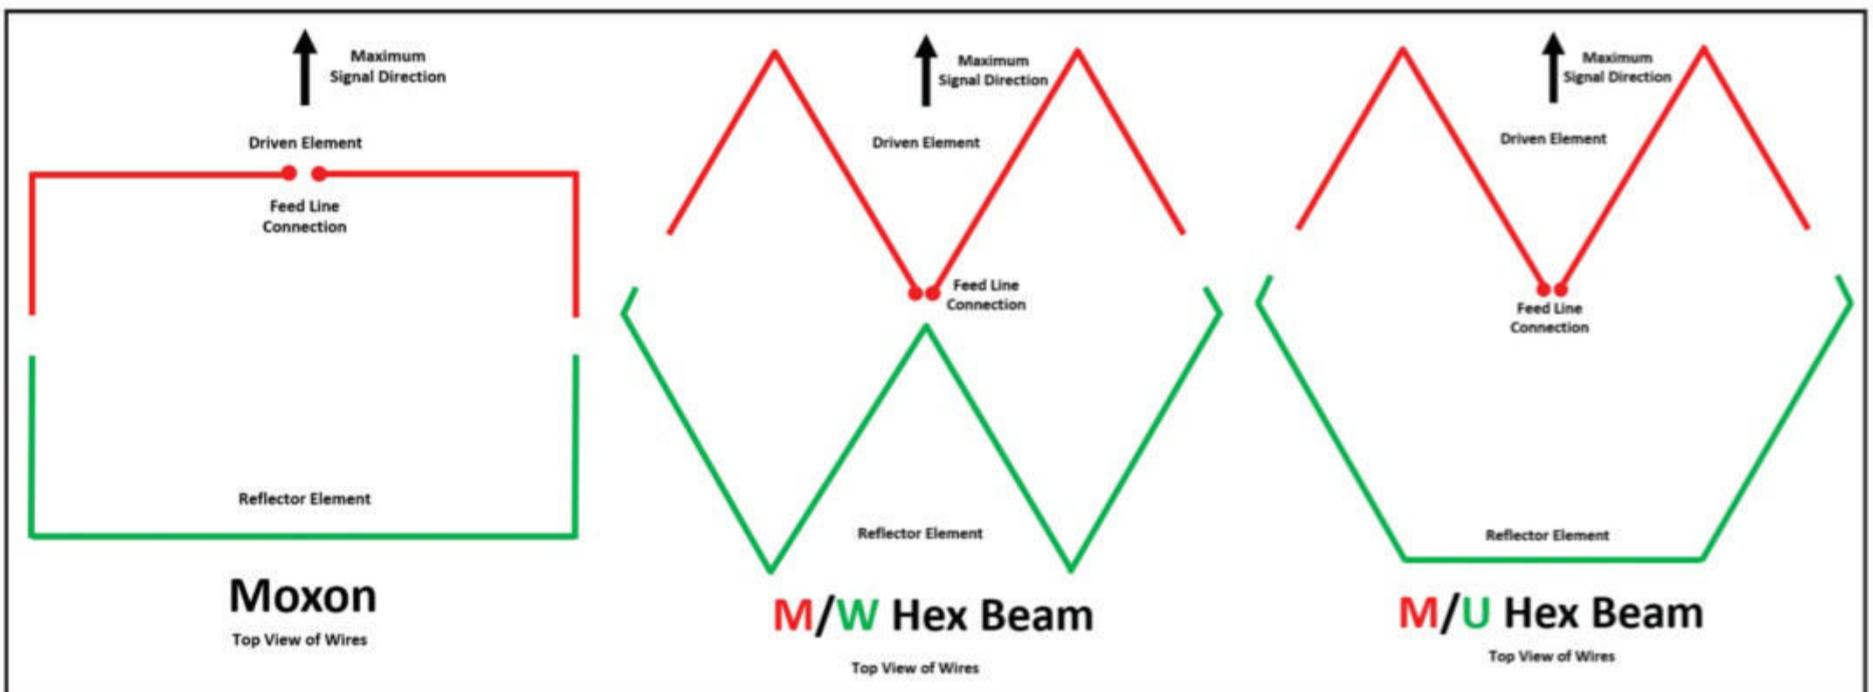
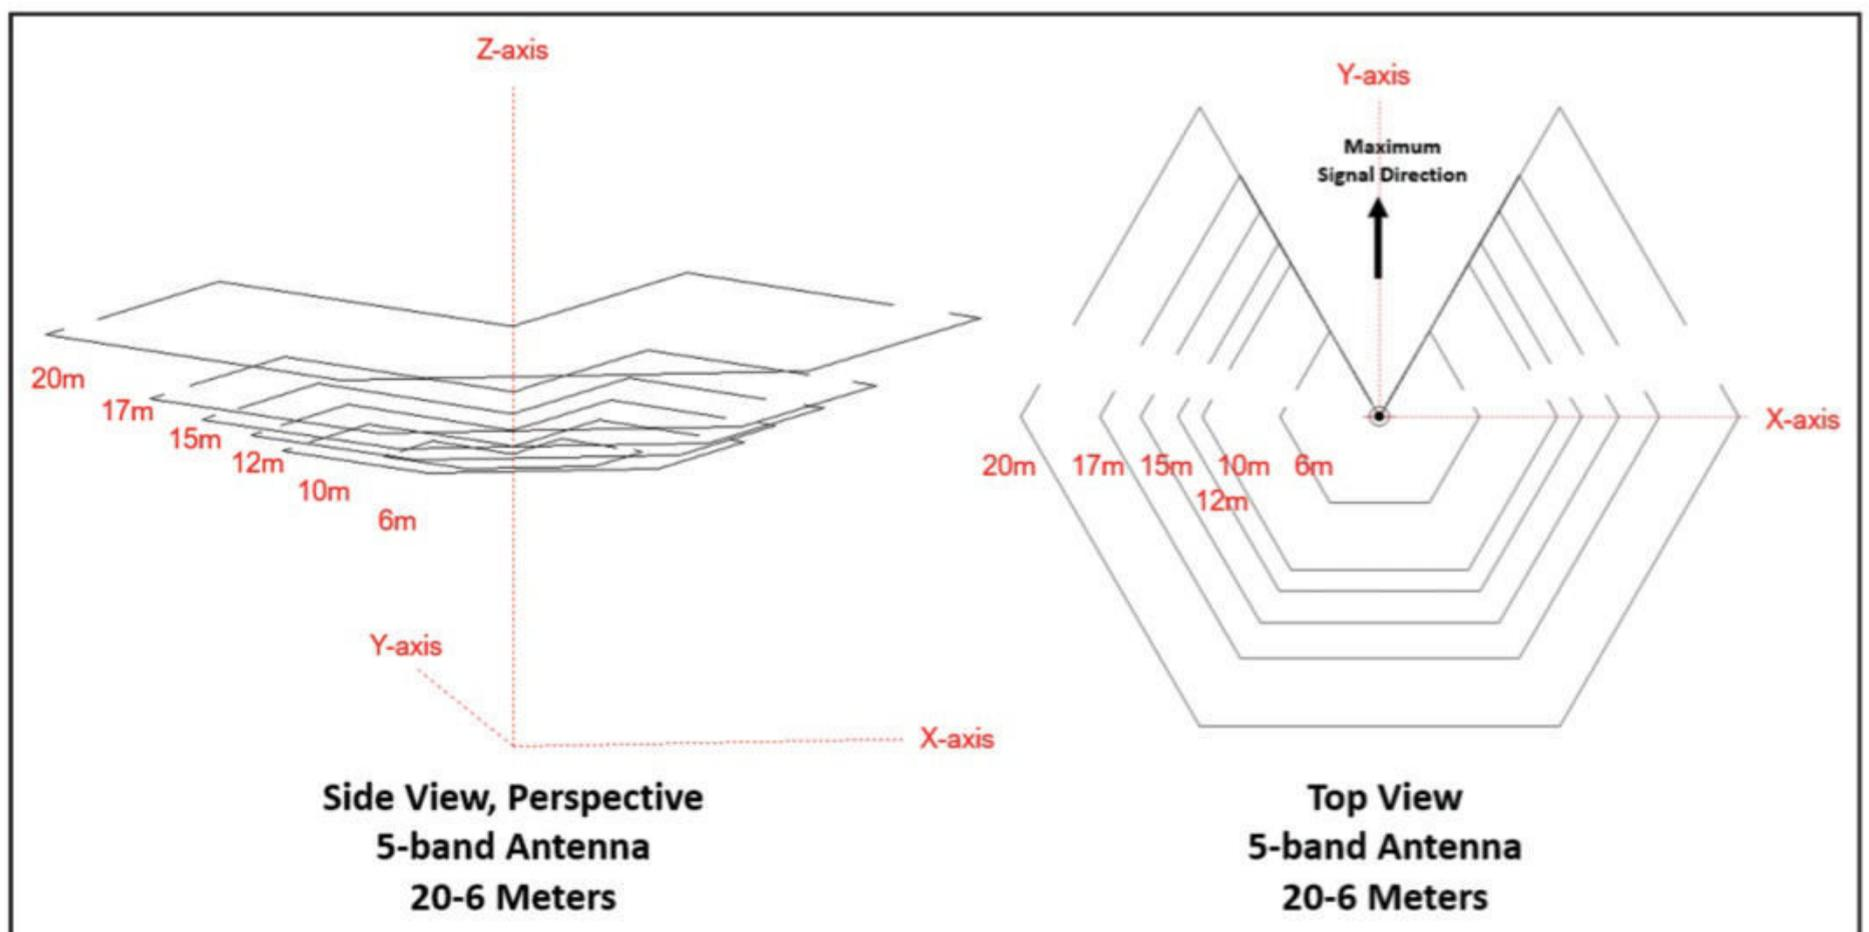

Figure 1. Moxon and hex beam wire configurations. (Illustrations by K5PA, except as noted)
Figure 2. Six-band hex beam showing nested wires (top view).
Amateurs have a long history of antenna experimentation, design, and development. Today, we stand on the shoulders of many giants in the field of antenna development. Many decades ago, Les Moxon, G6XN (SK), started bending antenna elements and developed what we now know as the Moxon Antenna.¹ Figure 1(a) shows how a 2-element beam consisting of a driven element and reflector has the end bent at right angles, enabling a smaller antenna size and turning radius. The resulting gain and front-to-back ratio for the radiated signal do not significantly change.
In the early 1990s, while dreaming of a snowflake, Mike Traffie, N1HXA, took the idea of creating a new antenna to the next level when he designed the multiband hex beam antenna for 10-20 meters and began to market his HEX-BEAM®.² Figure 1(b) shows the Traffie wire configuration where the driven element and reflector are bent into the shape of an M and W, what we call an M over W (M/W) configuration. Many were skeptical of the notion that you could nest multiple band elements over each other without severely affecting the overall performance. One such skeptic included a great mentor of the author, the renowned L.B. Cebik, W4RNL (SK), who made this remark during a telephone conversation.³
Traffie sold his HEX-BEAM® for over a decade and then decided to retire. Others were encouraged to try and improve on the initial design. Steve Hunt, G3TXQ (SK), published an article on the Broadband Hexbeam, and a new iteration, shown in Figure 1(c), was born that gave a similar gain as the original HEX-BEAM® but with greater bandwidth. This Broadband Hexbeam configuration has the driven element and reflector bent into the shape of an M and U, respectively, what we call an M over U (M/U) configuration. It became the gold standard for a new generation of hex beams that were available commercially at far less cost than the original due to less expensive support arms
For simplicity, each of the antennas shown in *Figure 1* is for a single band. When multiple bands are needed, each of the individual antennas are “nested” together, as shown in *Figure 2* (the M/U configuration). These views of the six antennas show the concentric antennas from the side and top views that are separated in the vertical plane to reduce interaction. Also, all antennas are connected to the same coaxial feedline shown at the center (tiny dot with circle) of the configuration. This figure is from the EZNEC model of the antenna. The large arrow shows the direction of maximum radiation.
EZNEC+ v6.0.33 with AutoEZ v.2.0.25 modeling software was used to characterize the beam patterns and impedance matching for the hex beam.^{8,9} The nested elements of the G3TXQ Broadband Hexbeam antenna, whose wire model was shown previously in Figure 2, was adapted to the VHQ HEX beam configuration by adding the 6-meter element and running beam patterns and VSWR curves across all bands (including 2-meters). This EZNEC / AutoEZ antenna